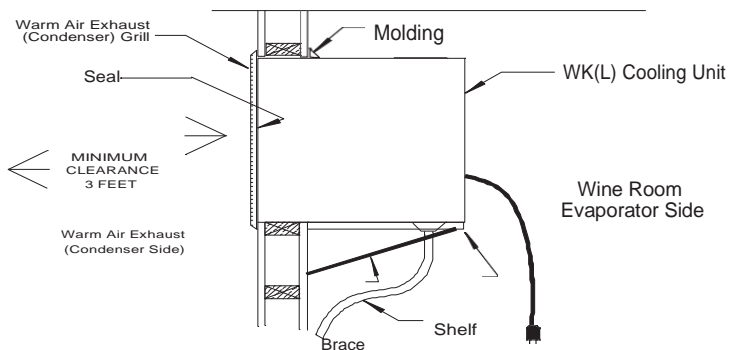
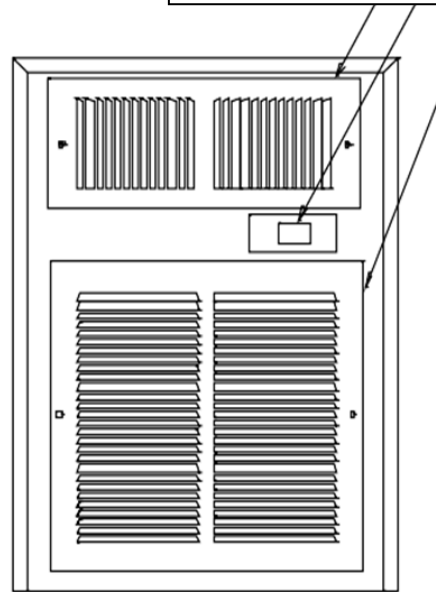

Figure 3
Figure 1
- ☞ This is a mechanical piece of equipment; it will make noise and produce heat on the warm side exterior condenser grille (Fig. 3). Remember, unit installation location is not only important inside the wine cellar, but just as important is where the warm side exhaust air is being rejected.
Before installing the unit, inspect it again for any shipping damage. Test the unit by placing it in a room where the temperature is above 65°F. Position the unit to allow cold air to flow from evaporator outlet. (See Fig. 1) Plug the unit's electrical cord into a properly grounded electrical GFCI outlet of adequate capacity (see unit specification for unit electrical requirements) and on its own circuit. The Sentry III has no "off" position; therefore, it will begin to run within 5 minutes of being plugged in. Allow it to run for a minimum of 15 minutes. There should be a flow of cool air from the evaporator side upper grille (see Fig. 1) and warm air should be flowing from the upper opening on the warm air exhaust (condenser) grille (see Fig. 3). If there is no airflow or no change in temperature on either side, contact your dealer.
Make sure that the warm air exhaust condenser grille can be properly attached to the unit (see Fig. 3).
If the unit is to be installed above floor level, construct a shelf as shown in Fig. 3. This shelf must be capable of supporting the weight indicated in the specifications. NOTE: Insulation placed between the unit and the shelf will reduce additional noise and help reduce condensate from forming on the underside of the unit.
Place the unit through the opening with the warm air exhaust side, flush to the outside of the wall (see Fig. 3). Attach the warm air exhaust condenser grille to the unit and to the wall with screws supplied with grille. Note: the unit may be installed with the cold side flush to the inside wall, however, two provisions must be made. First, insure the warm air exhaust grille will be installed. Second, insulate and vapor barrier the framed opening to prevent moisture in the wall from condensing on the cold surface of the cooling unit. Please remember that in all cases the warm air exhaust condenser grille must be directly attached to the warm side of the unit. Do not leave an air gap between the unit's surface and the warm air exhaust condenser grille. **The unit will not work properly without this grille.** The exhaust condenser grille has only a white primer coat. If the exhaust condenser grille is installed on an outside wall it should be coated with an appropriate paint.
BREEZAIRE is extremely proud of the quality and reliability of its products. Experience has shown that of the small number of problems encountered, the large majority are due to improper unit selection or enclosure construction. Should the cooling system be suspected of malfunctioning, check the temperature of the air being exhausted from the upper part of the warm air exhaust condenser grille. If it is warm, the unit is working. A further check may be made by comparing the air temperature entering the lower grille on the cold side (Evaporator side) with that leaving the upper cold side grille. (see Fig. 1) If the air leaving the unit is 6°F or more degrees colder than the temperature entering, the unit is working properly. In some cases, improper placement or installation may cause the unit's performance to be compromised. In situations where the ambient relative humidity is very low, the desired enclosure relative humidity may not be achieved without adding moisture. To add moisture to the enclosure only use slow, natural evaporation from a small porous water container. Do not use a humidifier.
Improper placement or installation may cause the unit's performance to be degraded. If the unit is exhausted into a confined area with poor ventilation or duct work, it will not be able to reject the heat and moisture it is removing from the enclosure and a malfunctioning unit will be suspected. If an obstruction to the flow of fresh air into or from the cooling unit (see Fig. 3) is stopped or restricted for any reason the unit could heat rather than cool the enclosure.